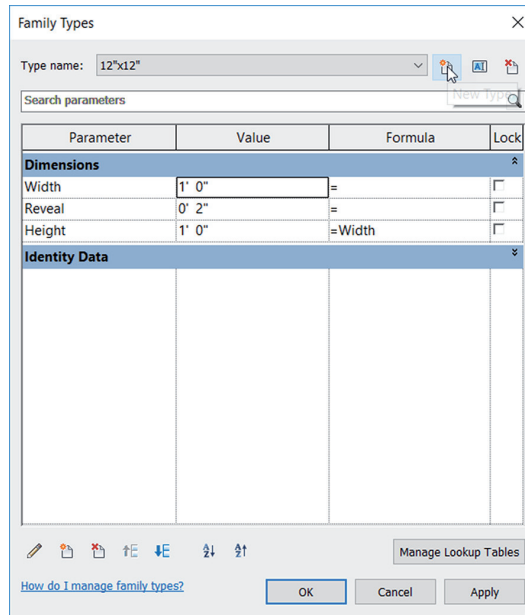

FIGURE BC2.10: Creating a new family type
10. Click the New button in the Family Types area, as shown in Figure BC2.10.
11. Call the new type 12" × 12" (300 mm × 300 mm), and click OK (see Figure BC2.10).